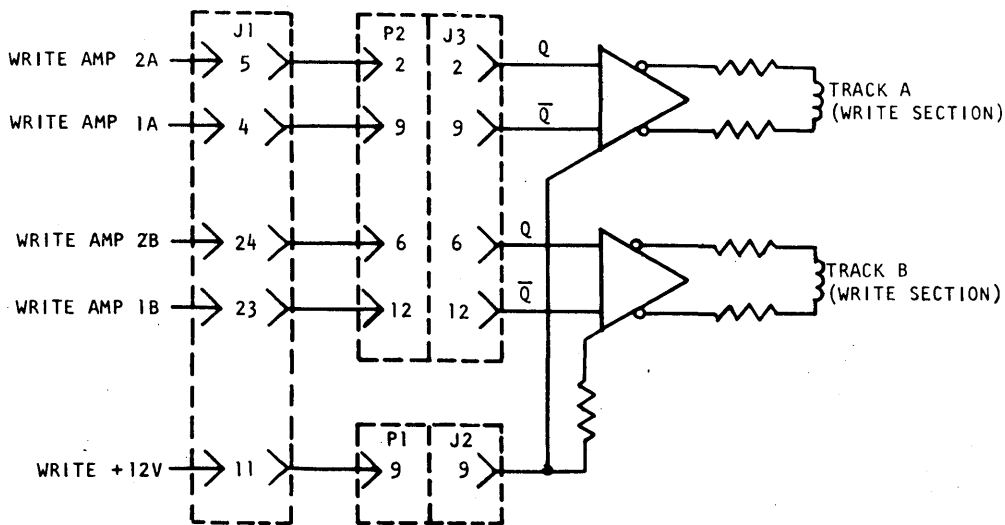

Figure 17. Write Amplifier
**Read and Write Electronics - Single Gap Two Track Head.** - Each track is equipped with a differential write amplifier (Models 6106-01, 02) which accepts true (Q) and false (Q̄) DTL/TTL digital data and impresses the appropriate magnetic flux on the tape. This is shown diagrammatically on Figure 17 and in detail in the relevant TTU schematic. The connections are listed on Table 4. The maximum recommended packing density is 800 BPI (1600 frpi).